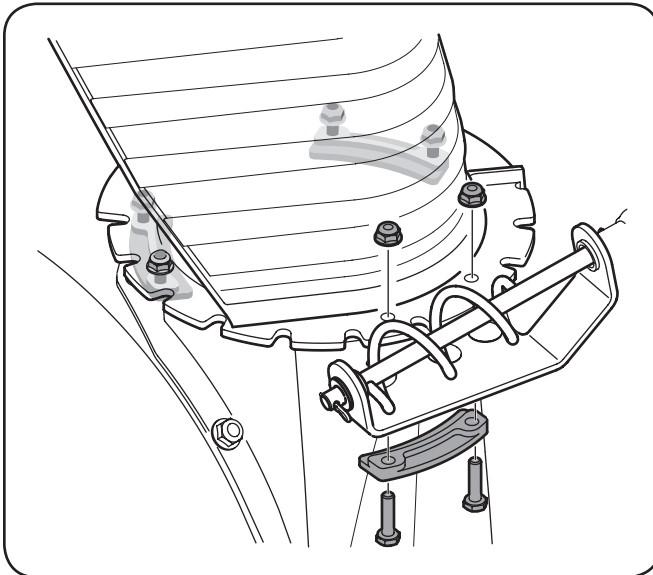

Figure 3-5
3. Secure flange keeper removed earlier with lock nuts and screws. Tighten down nuts securing the other two flange keepers. See Figure 3-5.
1. Remove lock nuts and screws securing one of the flange keepers to the chute assembly. Loosen the fasteners of the other two flange keepers. See Figure 3-5.